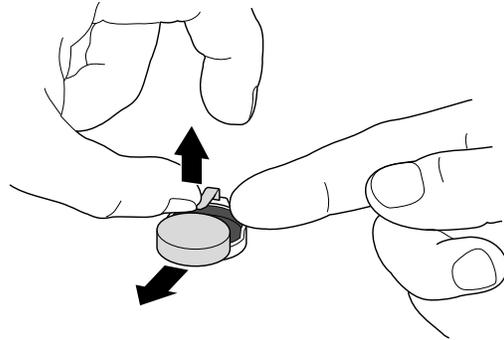

Figure 7-25 Sliding Out the System Identification Module
1. Lift the metal retaining clip, as shown in Figure 7-25.